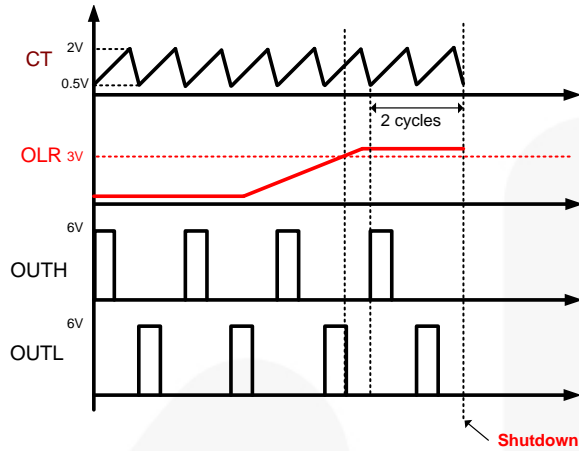

Figure 40. Arc Protection
**Arc Protection:** If OLR voltage is higher than 3V, the IC enters shutdown mode after a delay of two CT cycles, as shown in Figure 40.